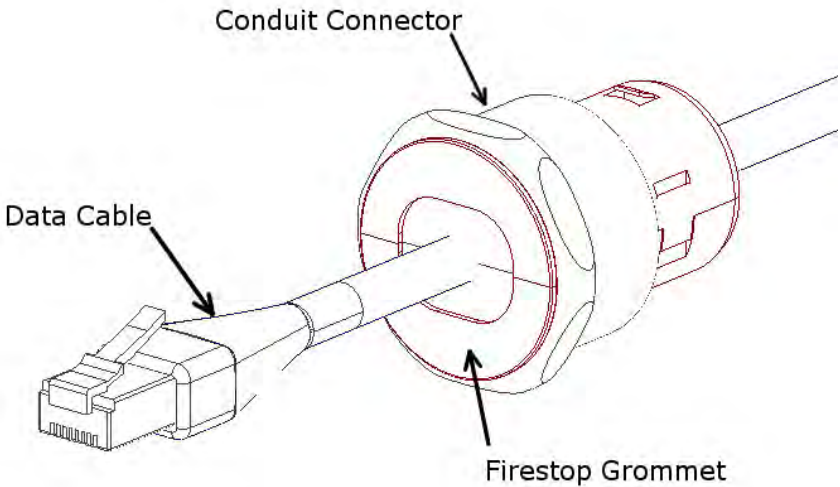

Figure 5 – Pull the data cable through far enough to allow attachment to the access point (8" - 10"). Snap the grommet around the cable(s).
Step 9 – Place the access point in the opening of the enclosure (reference *Figure 5*) with the access points LED light away from the key lock. If the key is turned the proper direction, the access point should drop in and self-center itself so that the feet on the access point falls into the key slots on the mounting plate (reference *Figure 6*).
Step 6 – Run the data and power cable (if required) through the conduit connector located on the side of the *access point enclosure*. Pull the data cable through far enough to allow attachment to the access point (8" - 10"). Clip the provided firestop grommet on to the data and power cable inside the enclosure, and slide the grommet into the conduit connector so the end is flush with the connector (reference *Figure 5*).